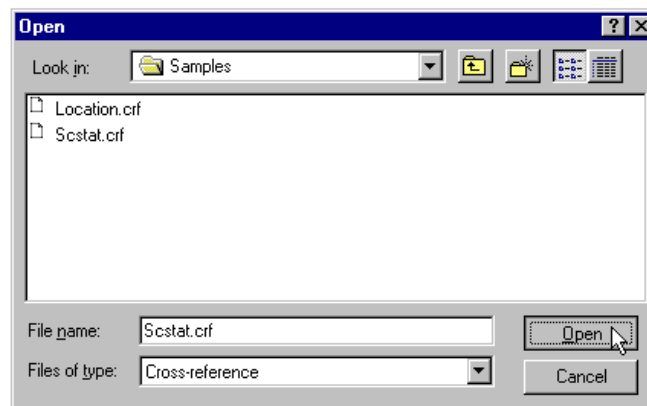

Figure 3-95 Open Scstat.crf File
e) Select the **Scstat.crf** file (located in the **Videx** folder's **Samples** folder) and click **Open** (Figure 3-95).